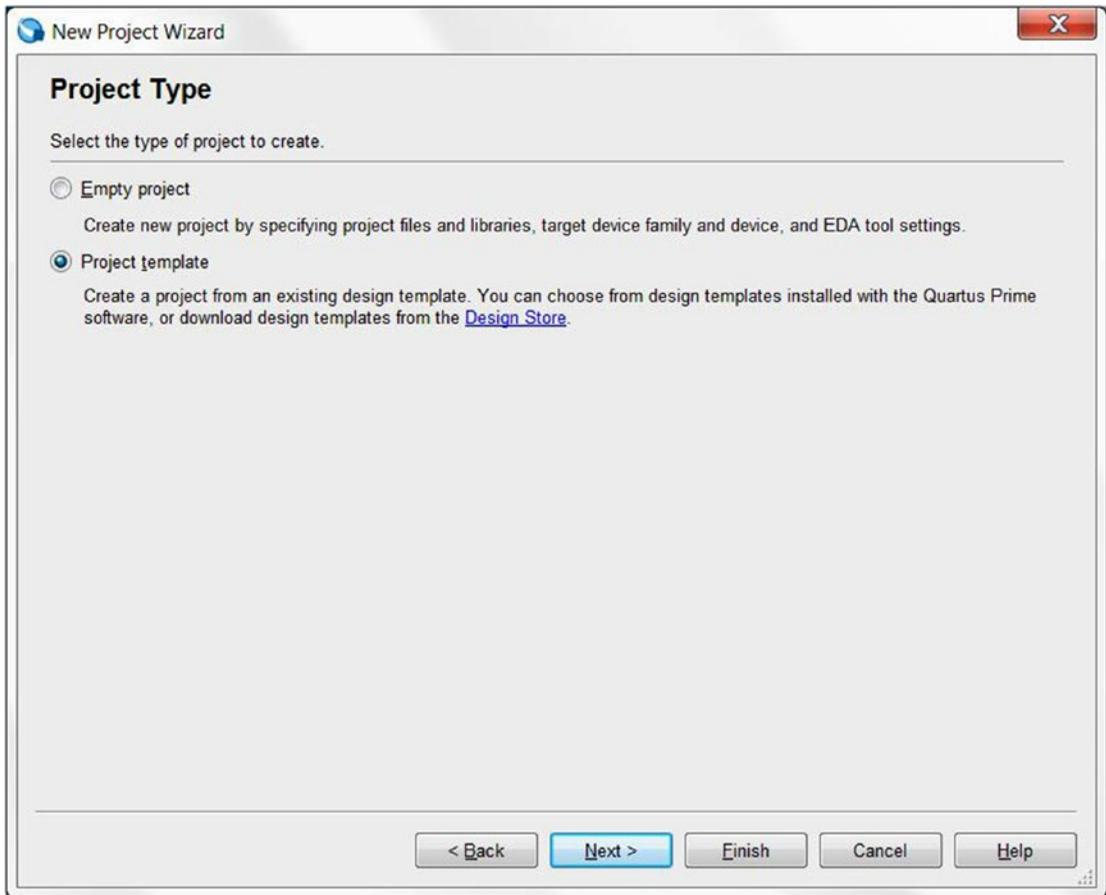
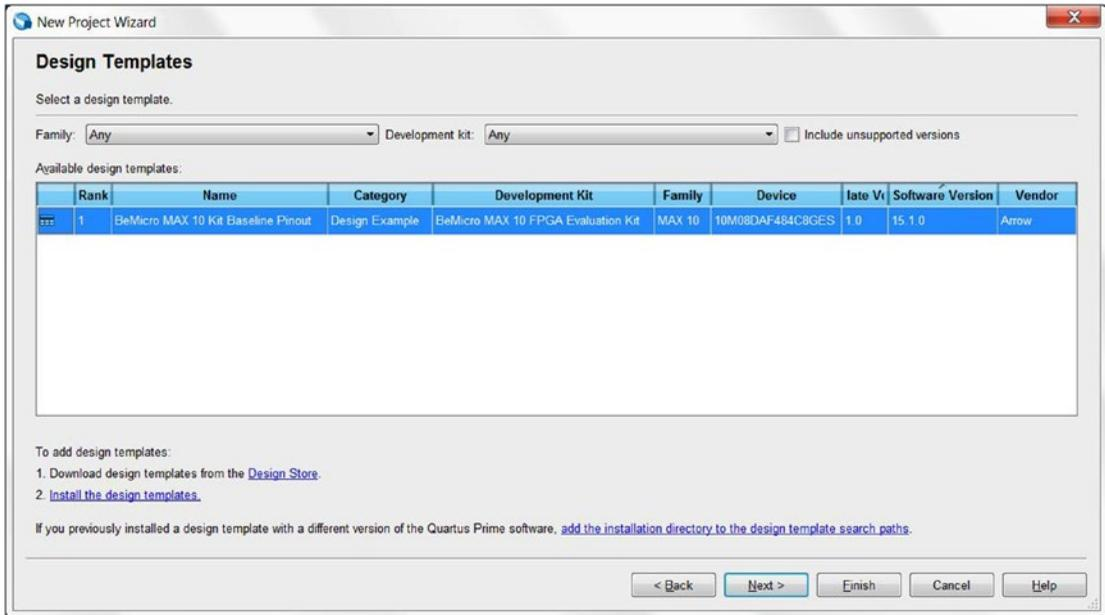

Figure 4-5. Quartus Prime New Project Wizard dialog box—Project Type
Figure 4-12. *New Project Wizard—Design Templates with BeMicroMAX10 kit Baseline Pinout template install*
5. Select **Project template** and then click **Next** (shown in Figure 4-5).
- The design templates page will change from Figure 4-5 to Figure 4-12. Click the **BeMicro MAX10 Kit Baseline Pinout** templates (it should highlight the template) and then click **Next**.